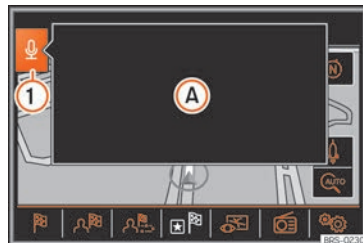

Fig. 182 Voice control: indication of the help menu elements that can be pronounced.
- Speak the commands when the audio and audio signals have finished playing, and the symbol  » Fig. 182 ① is displayed on the screen.
A help menu is displayed with the most important orders in the active mode at the time (e.g. Navigation) »» Fig. 182 (A). Other elements that can be spoken are shown in red on the corresponding screen »» Fig. 182. The help menu indication can be activated and deactivated in the **Voice control settings** menu »» page 185.